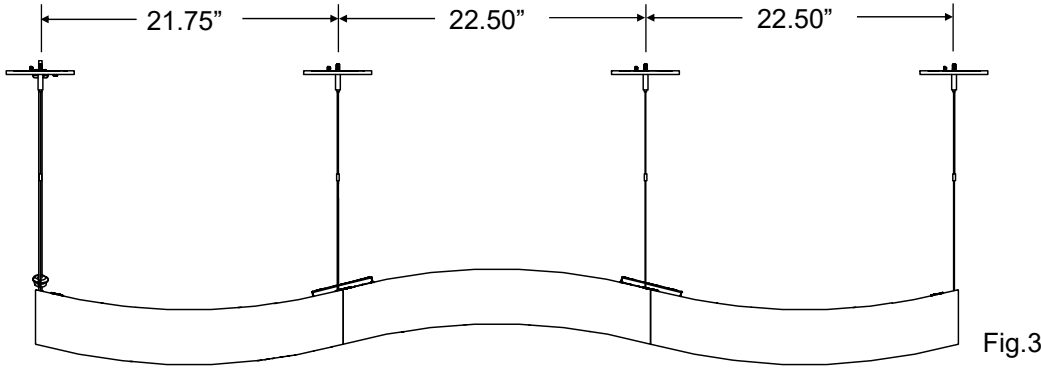

Fig.3
1. Push in gently sides and slide lens up and install springs (4x) to cutout notch as shown in Fig.3.
3. Install Aircraft Cable using SPACING dimensions in Fig.3